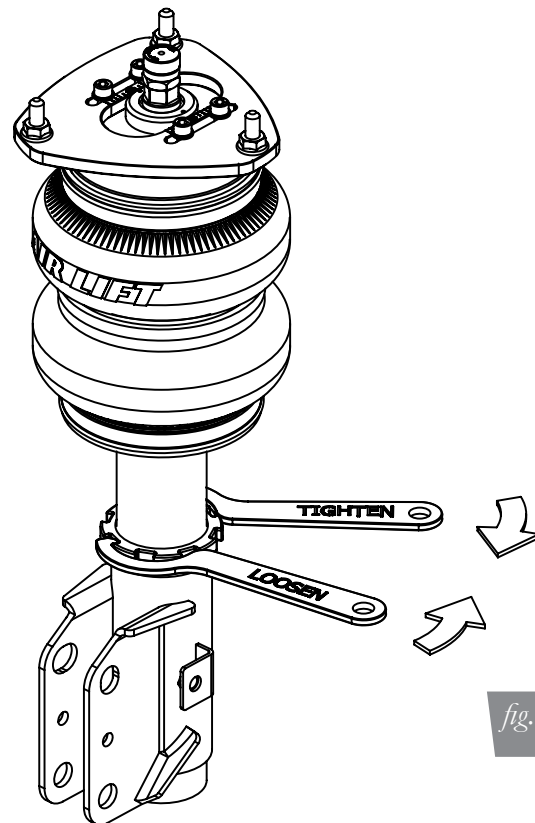

fig. 11
3. Using the supplied spanner wrench, loosen the lower locking collar. (fig. 11)